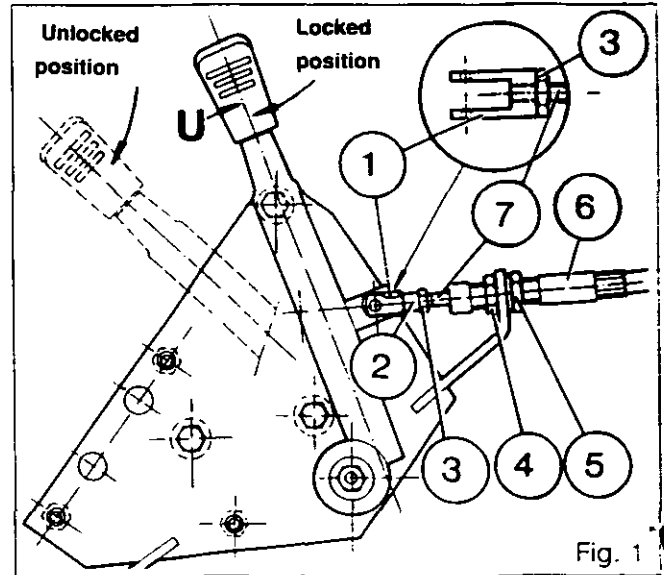
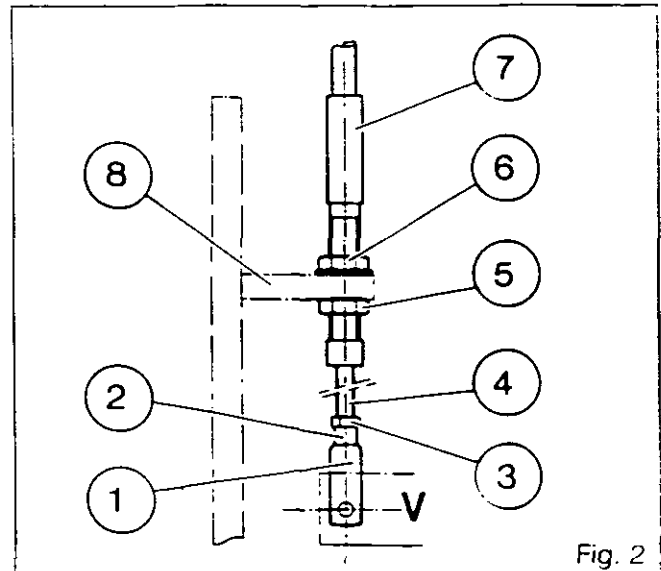

Fig. 1
Fig. 2
1. Set the lever "U" to the «locked» position (Fig. 1).
2. Turn the clevis (1) until it meets the end of the threaded part of the cable (7).
3. Attach the clevis (1) to the lever "U" with the clip (2). Tighten the nut (3).
4. Adjust the outer cable stop (6), with the nut (4) reaching the end of the threaded part.
5. Tighten the nut (5).
6. Screw the clevis (2) until it reaches the threaded part of the cable (4) (Fig. 2).
7. Fit the clevis (2) to the lever "V" with the clip (1).
8. Tighten the nut (3).
9. Fit the outer cable stop (7) in the support (8), then tighten the nut (6) in such a way that the cable (4) is not subject to any constraint or any play.
10. Tighten the nut (5).